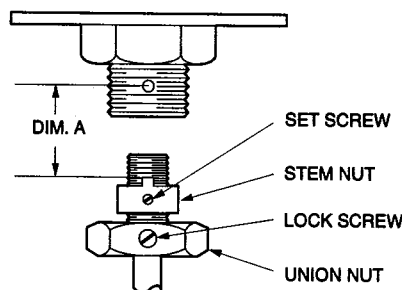

Figure 5. Stem Nut Adjustment
If upper valve stem nut is removed during repair, it must be adjusted according to the following procedure (figure 5):
1. Loosen lock screw in side of union nut. Remove union nut (figure 5).
2. Energize actuator to relieve pressure on valve stem (4).
3. Loosen union nut lockscrew and remove union nut (see figure 5).